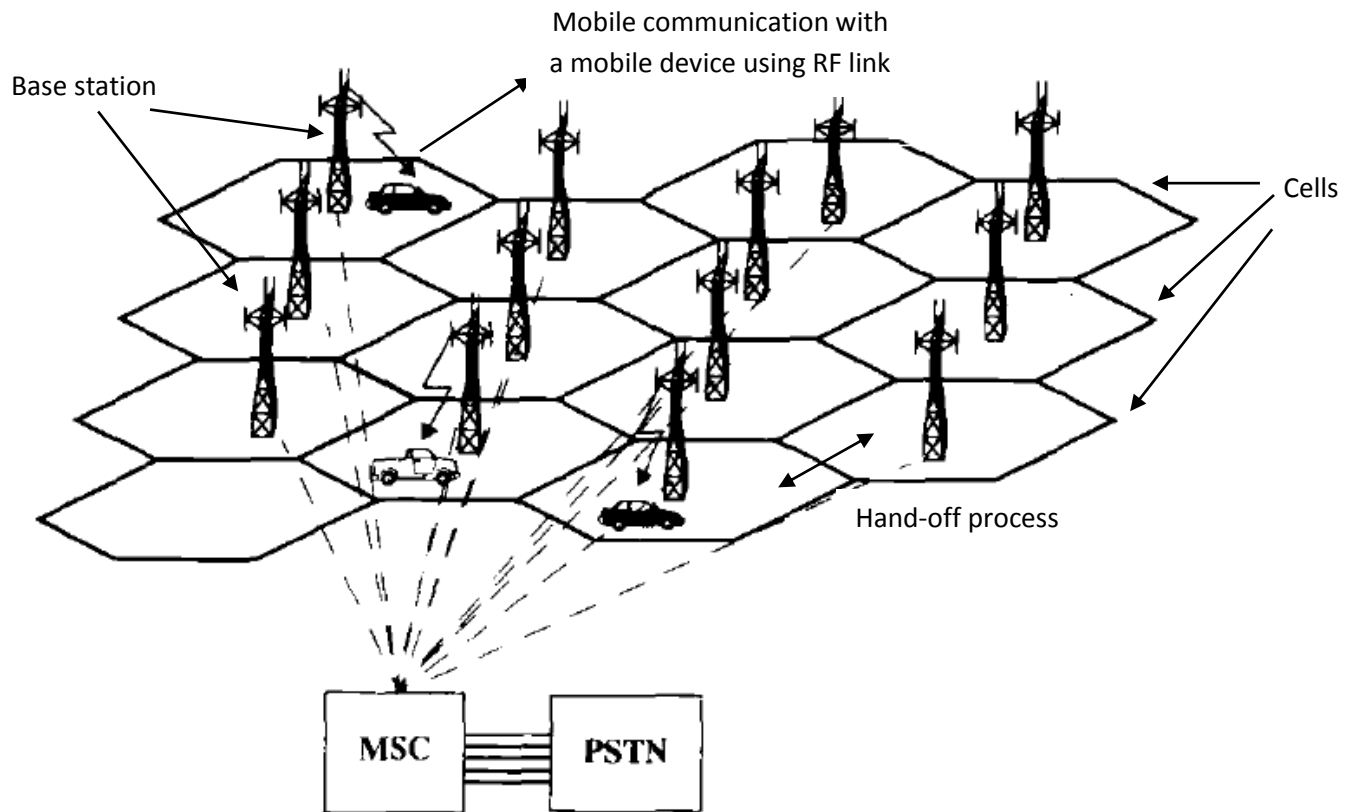

Figure 2. Cellular communication system
Figure 2 shows the block diagram of a cellular communication system in which the hexagon shaped cells are shown. The automobile (mobile user with the mobile device) shown in the figure wirelessly communicate when it moves from one cell to another cell. The base stations of the respective cell connect the mobile devices using radio Frequency (RF) link. The base stations are controlled by Mobile switching centres (MSC) which are connected to the existing telephone system referred to as Public Switched Telephone Network (PSTN). Base station is provided with a call/data communication handling processor.